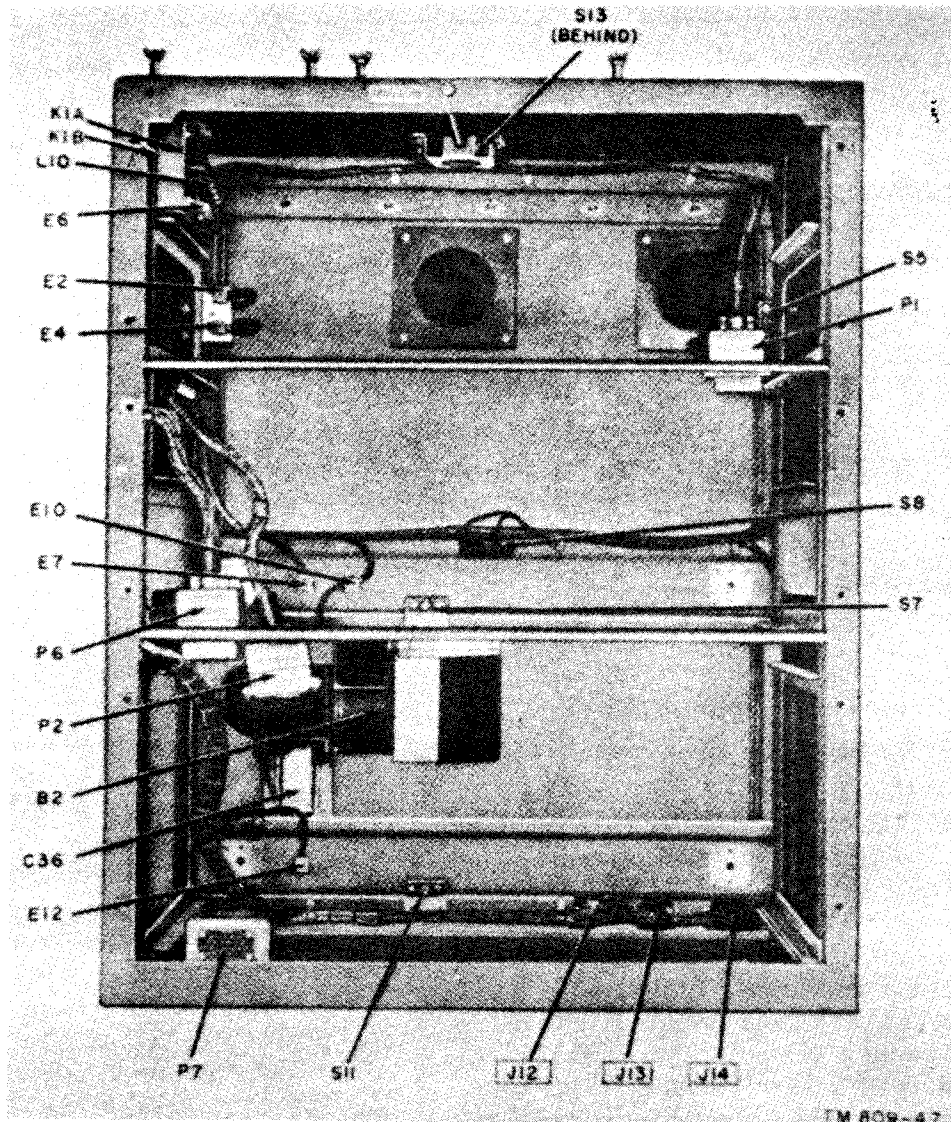

Figure 87. Transmitter housing, decks removed, basic model transmitters.
- (1) The speech amplifier can also be checked by the method of signal substitution. Connect an audio oscillator to pin D of remote control receptacle J12 located at the rear of the transmitter housing (fig. 87). Set the oscillator to a frequency of 1 kilocycle (kc). Turn the 600 OHM LINE GAIN control fully clockwise for maximum gain. Use an input level of .015 volt. If this value is used, the stage-gain chart given in paragraph 35 can be used to check the grid, plate, and output voltages.
- (2) To check the carbon microphone section of the speech amplifier, connect the audio oscillator between pin C and